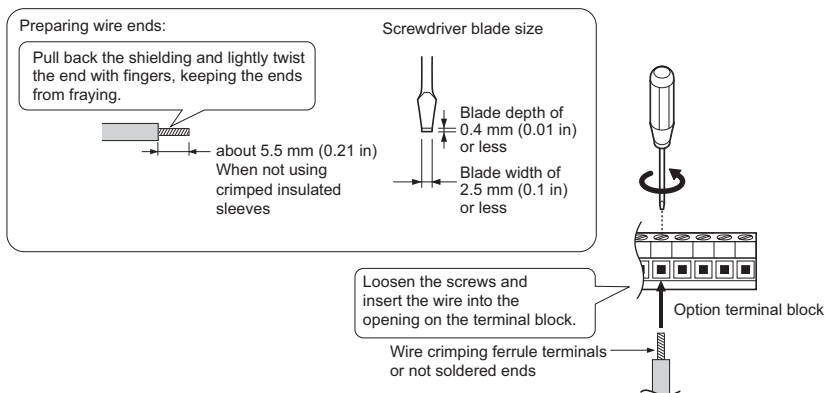

Figure 17 Connect Cable Wiring
- Wire the customer-supplied analog input signal to terminal block on the option according to **Figure 17**. Refer to **Figure 29** for the AI-A3 Option connection diagram. Refer to **Table 5** for a detailed description of the option terminal functions.